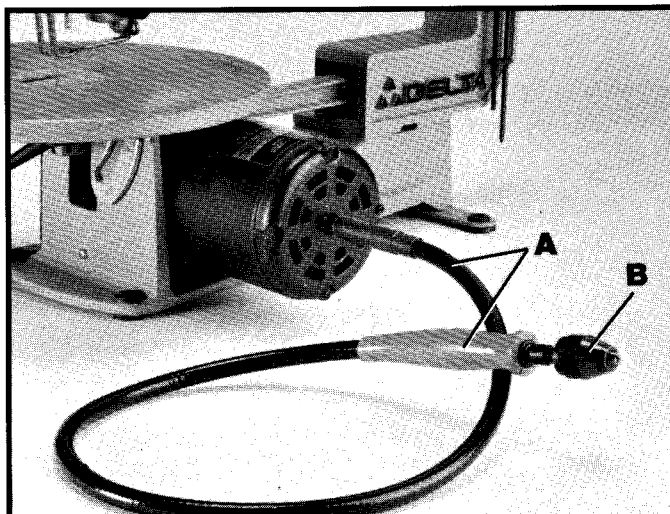

Fig. 44
The accessory 31-055 Flex Shaft Kit (A) Fig. 44, can easily be adapted to the motor shaft of your 16" Scroll Saw enabling you to use sanding drums, grinding points, rotary cutters and wire and bristle brushes in the keyless 3-jaw chuck (B).